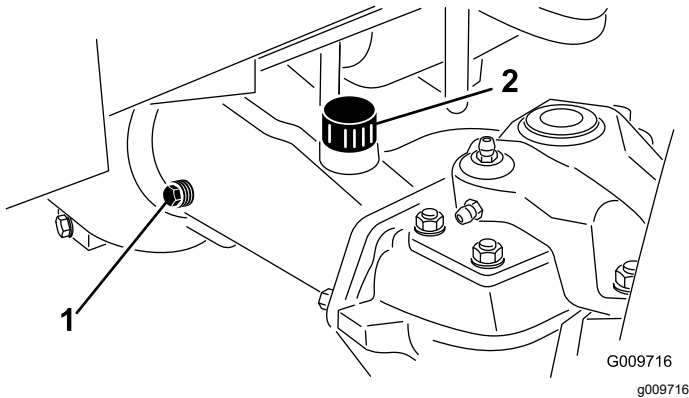

Figure 93
- Remove a check plug from 1 end of the axle (Figure 93) and make sure that the oil is up to the bottom of the hole. If the level is low, remove the fill plug (Figure 93) and add enough oil to bring the level up to the bottom of the check-plug holes.